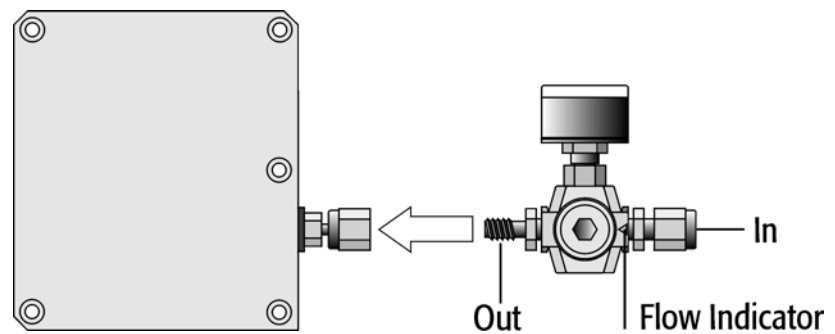

Figure 11. Installing the Flush Gas Regulator
- 1 Attach the OUT-side of the supplied Regulator at rear right hand side of the Combi PAL. (see Figure 11)